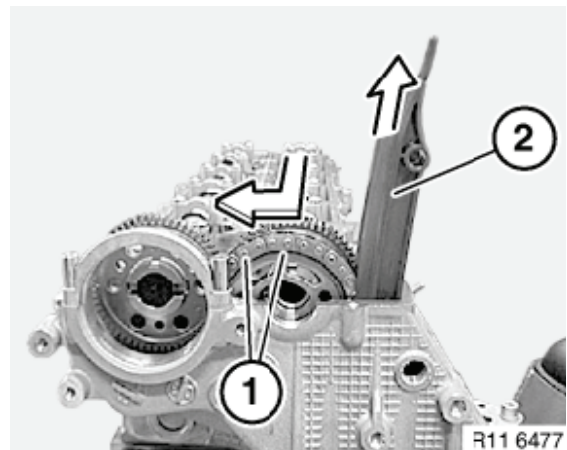

Figure 5-97
16. Remove sprocket and chain from intake camshaft (**Figure 5-97, (1)**).
17. Release guide rails (**Figure 5-97, (2)**) from mount and remove.